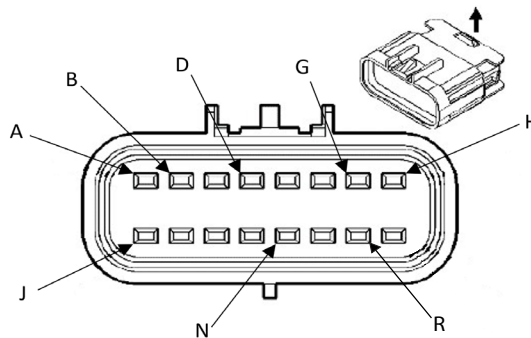

Figure 18 - Chevy PTO Connector Pinout Detail
3. Cut jumper wire between pins "A" and "J" on PTO harness supplied by PTO manufacturer. Crimp "PTO ENABLE" wire and "ENGINE STOP OUT" wire (P/N: 475300353) to wire coming from pin "A". Reference Figure 18 for pin location in connector.
5. Cut wires coming from pin B and pin H on PTO harness supplied by PTO manufacturer. Crimp from Pin "B" to "PTO READY" pin supplied with harness (P/N: 475300353). Crimp from Pin "H" to "PTO READY LO" pin supplied with harness (P/N: 475300353). Reference Figure 18 for pin location on connector.
6. Splice a wire into pin G on PTO harness supplied by PTO manufacturer. Crimp pin 3 ("PTO PRESSURE") wire supplied with harness (P/N: 475300353) to this wire. Reference Figure 18 for pin location on connector.